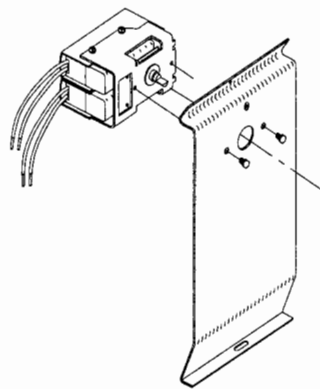

Fig.1
1. Assemble thermostat to one of the covers provided as shown in Fig. 1.